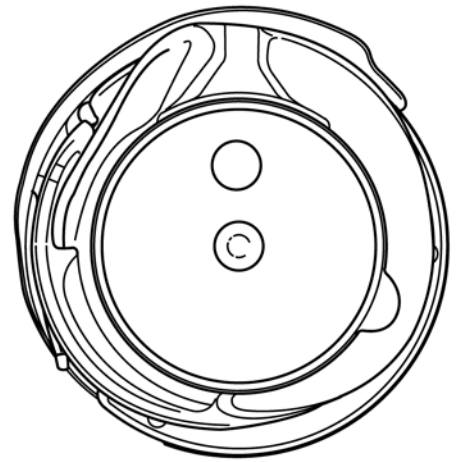

Fig. 61
- Remove the bobbin case base with sewing hook gib (fig. 61).